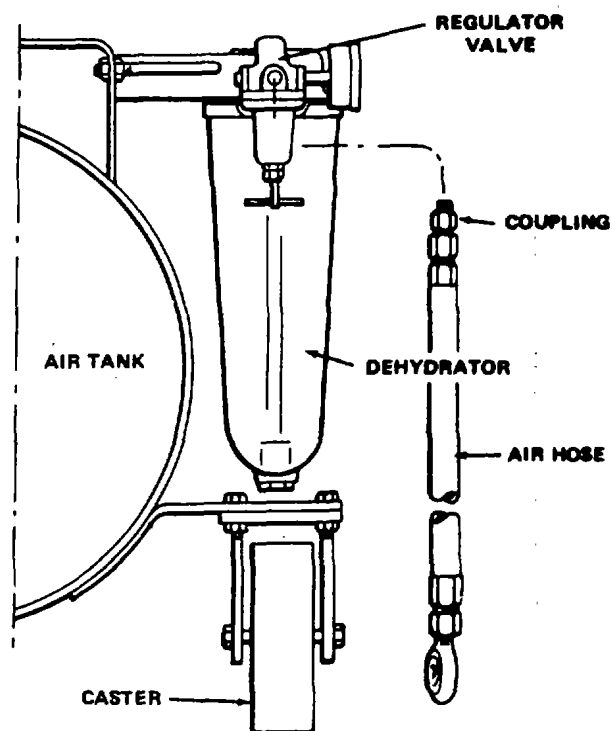

Figure 5. Air hose assembly, removal points
- a. Install the coupling (Fig. 5) in opening in regulator.